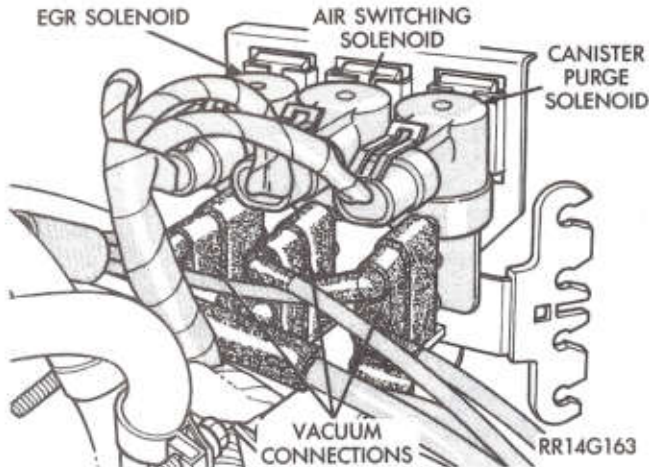

Fig. 11—Canister Purge Solenoid, Air Switching Solenoid, and EGR Solenoid Vacuum Connections
(16) Verify that vacuum connection at Air Switch Solenoid is secure and not leaking (Fig. 11).
(18) Verify that vacuum connection at EGR Solenoid is secure and not leaking (Fig. 11).